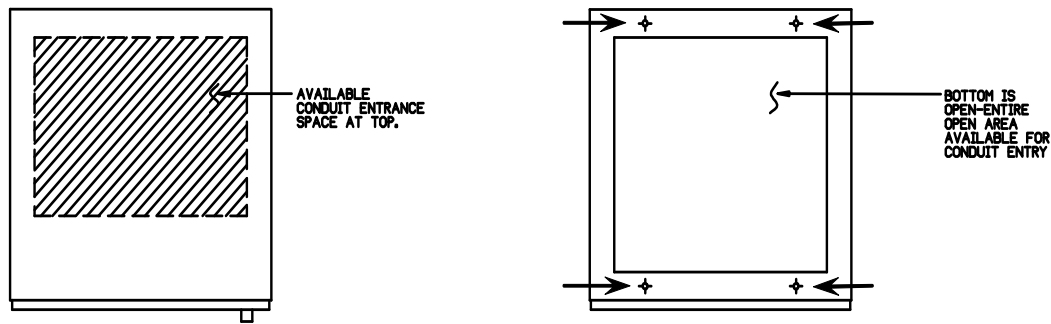

Figure 5: Anchoring the Switch.
- Anchor the switch to the floor (Figure 5) with four 1/2-inch Grade 2 minimum bolts, flat washers, and anchors (not furnished) and torque to 60 ft-lbs.